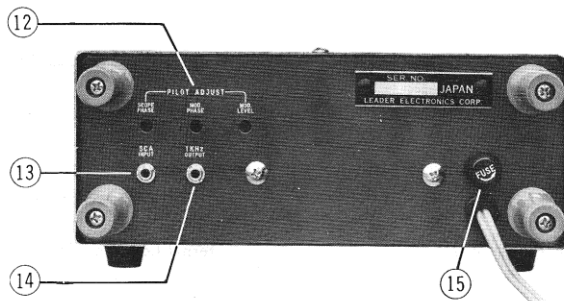

Fig. 1-2 Rear panel controls.
- ⑧ COMPOSITE OUTPUT jack: All signals as selected with the FUNCTION switch and the pilot signal are available at this jack. The output is used in checking stereo multiplex circuits.
- ⑨ FREQUENCY SET adjuster: Used in adjusting the RF carrier frequency; nominally set at 100MHz, adjustable range is $\pm 1\text{MHz}$.
- ⑩ RF LEVEL switch: Three positions for setting the RF output at approximately 10mV, 1mV and 0.1mV, at HIGH, MEDIUM and LOW respectively.
- ⑪ RF OUTPUT connector: BNC type for connection to the RF output cable; output impedance is 75Ω .
B. Rear Panel, Fig. 1-2